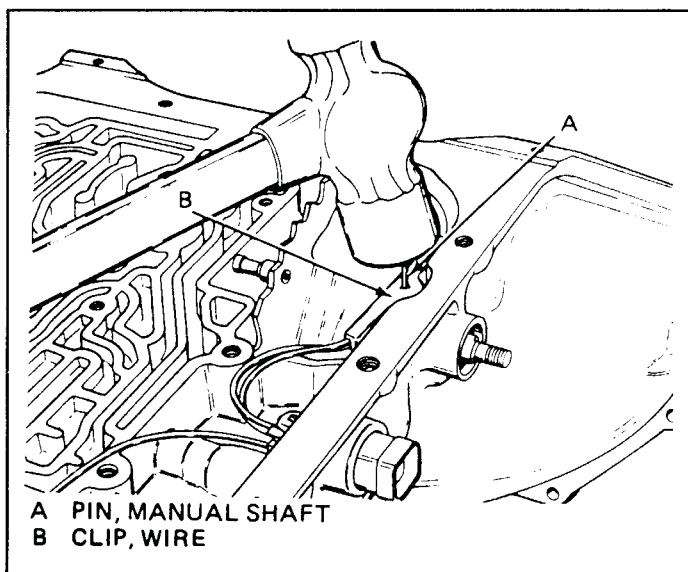

Figure 63
11. Install the manual shaft retaining pin (Nail) into case and insure it is engaged in shaft groove, as shown in Figure 63.